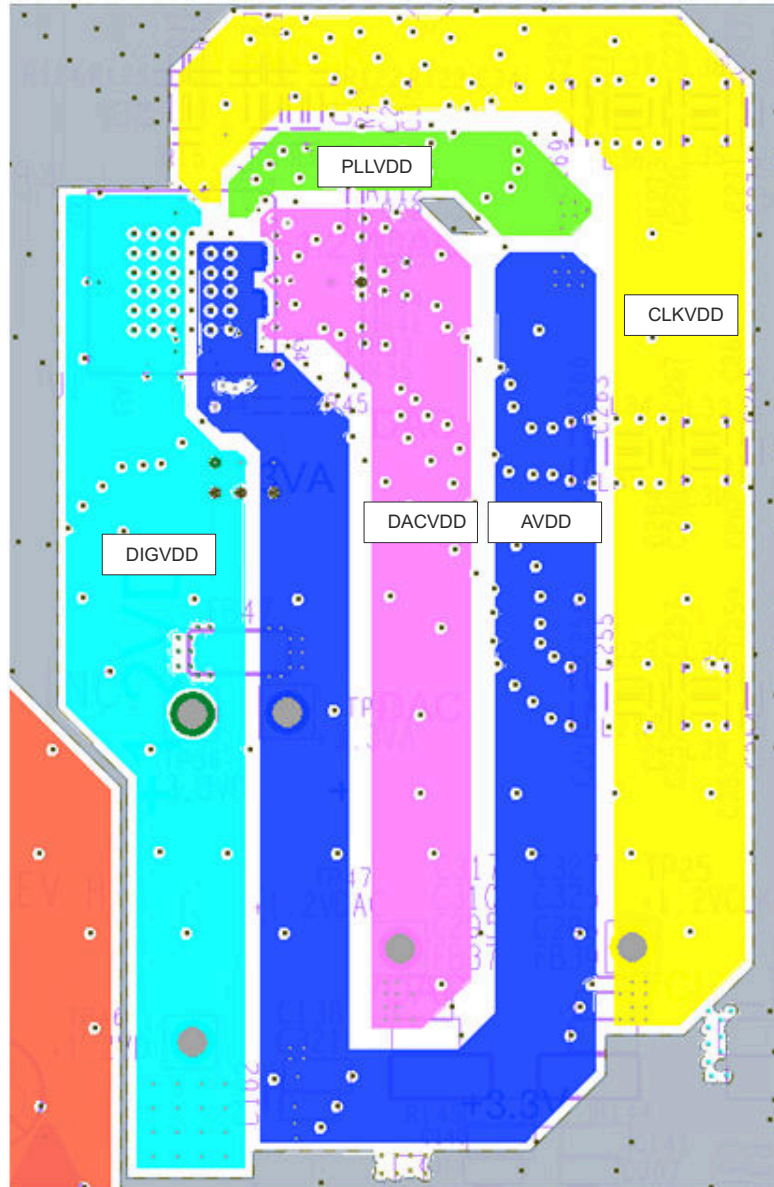
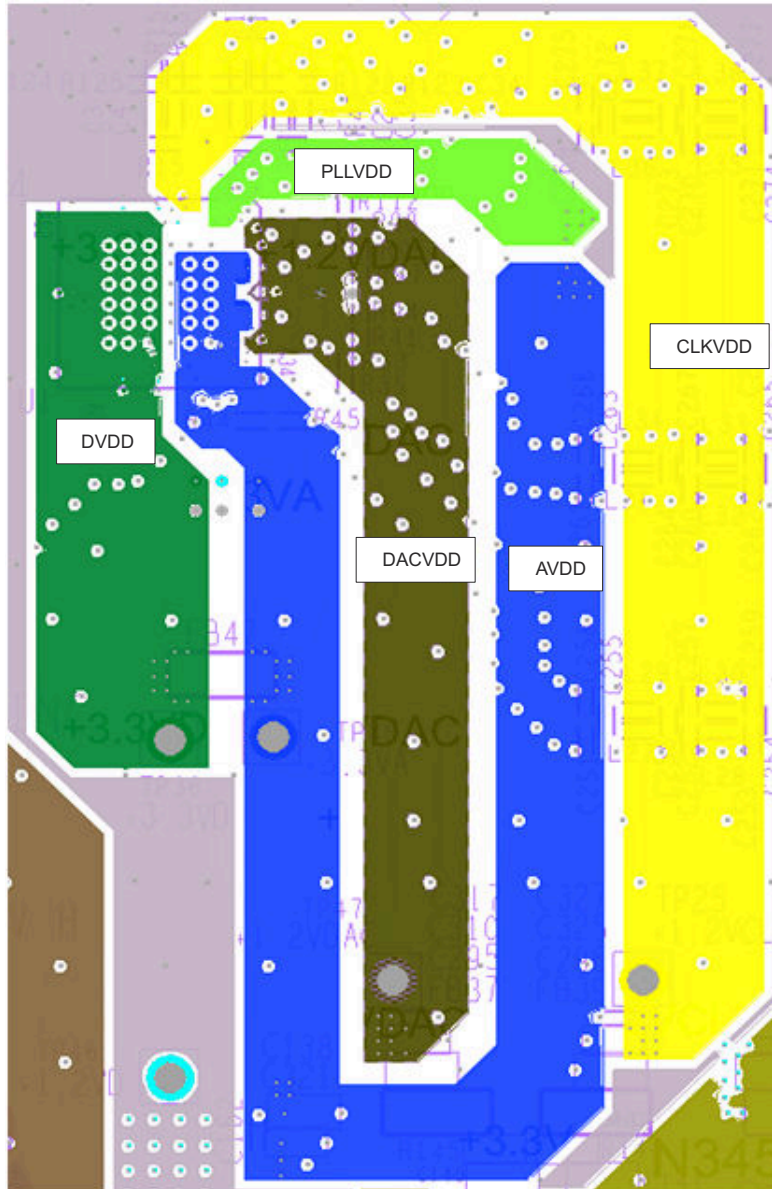

図 7-11. Third Layer of DAC3482 Layout Showing Power Layers. Layout Example from DAC3482EVM Rev H
図 7-12. Fourth Layer of DAC3482 Layout Showing Power Layers. Layout Example from DAC3482EVM Rev H
The following layout guidelines correspond to the layouts shown in Figure 7-11 and Figure 7-12.
2. As shown in Figure 7-11 and Figure 7-12, both layers three and four are designated for power supply planes. The DAC analog powers are all in the same layer to avoid coupling with each other, and the planes are copied from layer three to layer four for double the copper coverage area.